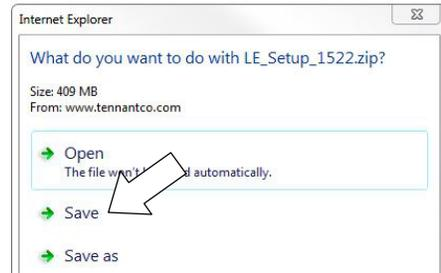

Fig. 25
3. Within the Service Application Software page, click on the link titled “Service Diagnostics LE version x.x.xx” to download the application installer then click the Save button (Figure 25).